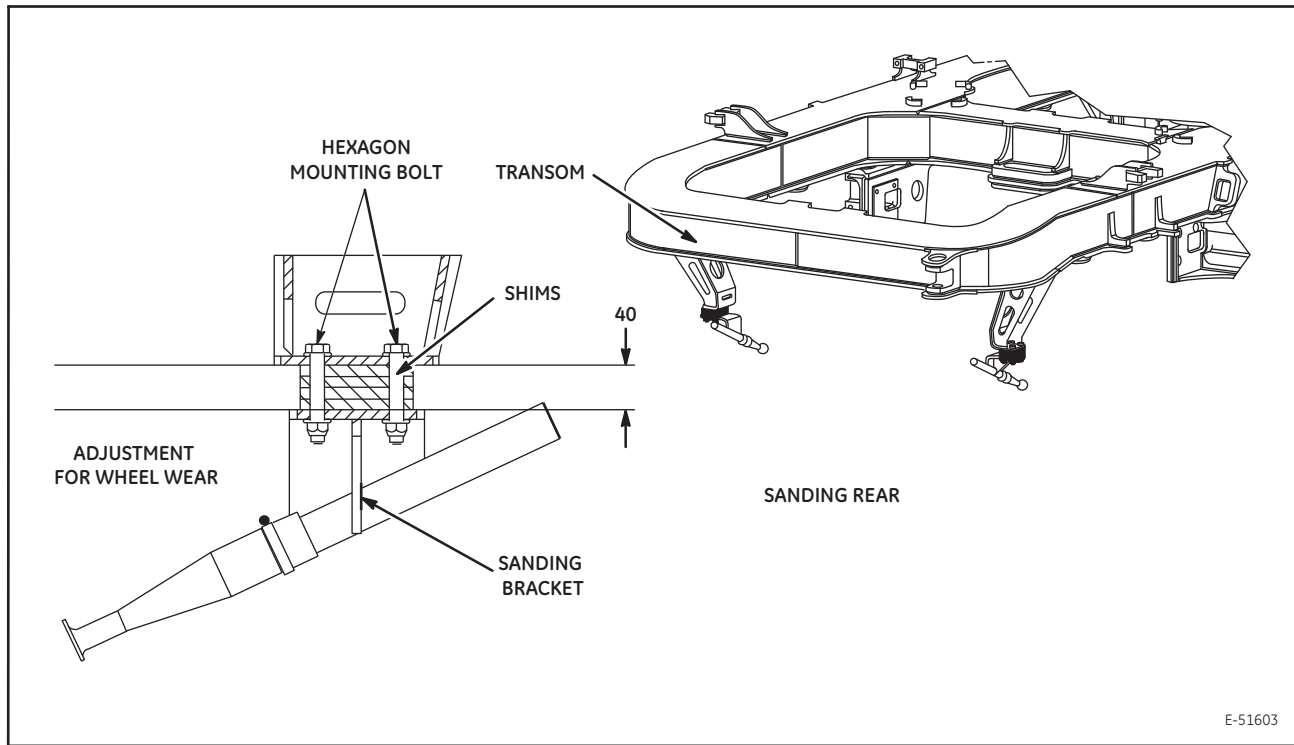

Figure 16. Sanding Rear
5. Lower the motor slightly. Remove the cotter pins and the retaining pins. Replace damaged rubber bushings or connection link (Figure 16).
1. Raise the motor slightly. Install the cotter and retaining pins and install the rubber bushings and connection link (Figure 16).